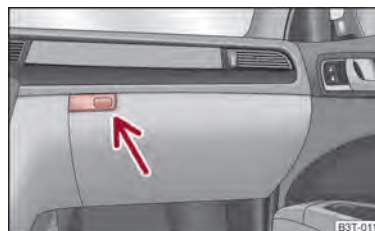

Fig. 92 Dash panel: Storage compartment on the front passenger side
- Press the button ⇒ fig. 92 - the lid folds down.